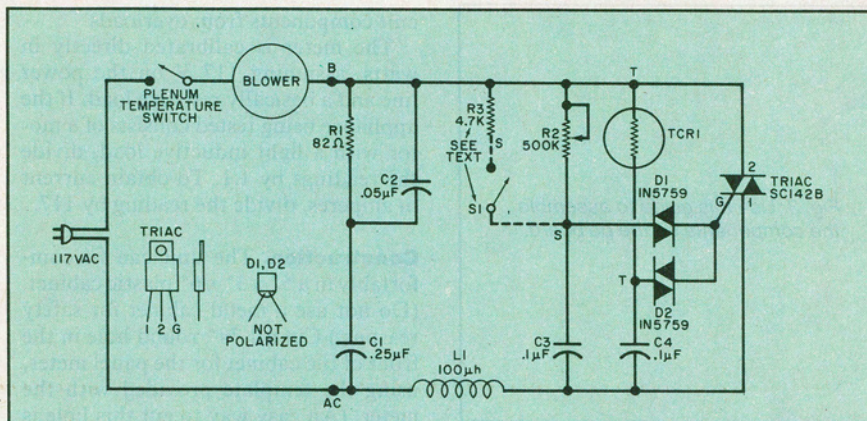

Fig. 1. The blower-motor control circuit is based on the use of a triac.
**Circuit Operation.** The heart of the revised blower-motor control is a triac. A triac is a three-electrode semiconductor device that is triggered into conduction in response to a gate signal. The action of a triac is similar to that of a silicon-controlled rectifier (SCR), except that it can conduct current in both directions, as required in an ac circuit. As shown in the schematic (Fig. 1), a signal is applied to the gate of the triac through a thermistor and diac *D2*. (A diac is a solid-state trigger device that has a breakdown voltage similar to that of a zener diode, except that it works in either direction.)